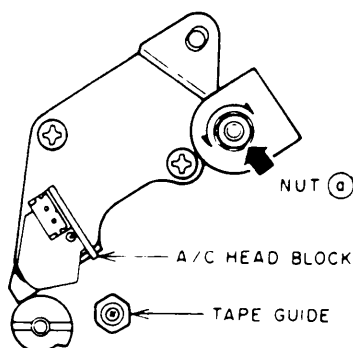

Fig. 6-9
- 3) Slightly turn the NUT (a) shown in Fig. 6-9 to obtain the maximum audio output.